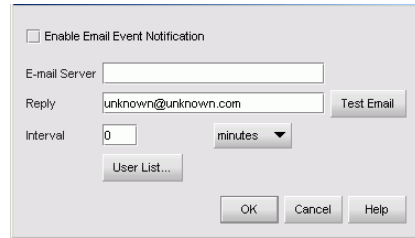

Figure 32: E-Mail Event Notification Setup dialog box
1. At the HAFM main page, choose **Monitor > Event Notification > E-Mail**. The E-Mail Event Notification Setup dialog box displays, as shown in Figure 32.